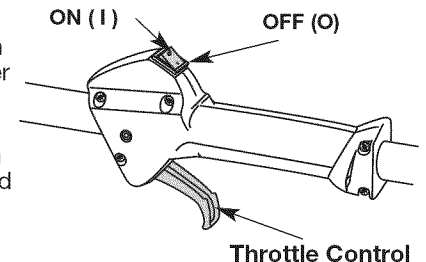

Fig. 6
NOTE: There is no need to turn the unit on. The On/Off Stop Control is in the ON (I) position at all times (Fig. 6).
NOTE: There is no need to turn the unit on. The On/Off Control is in the ON (I) position at all times (Fig. 6).